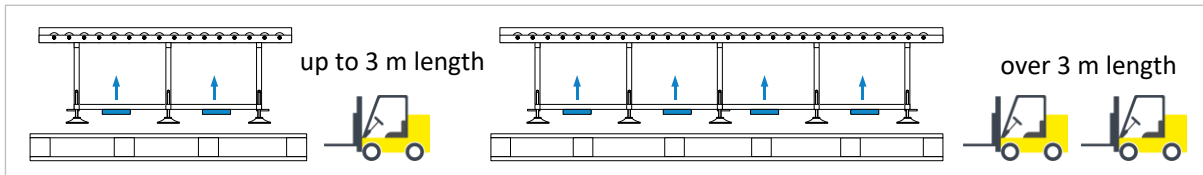

Figure 2: Lifting from the pallet with forklift truck
- Guide the appropriately spaced forks to the points marked in ⇒ Figure 2 (left).
- Guide the appropriately spaced forks to the points marked in ⇒ Figure 2 (right).